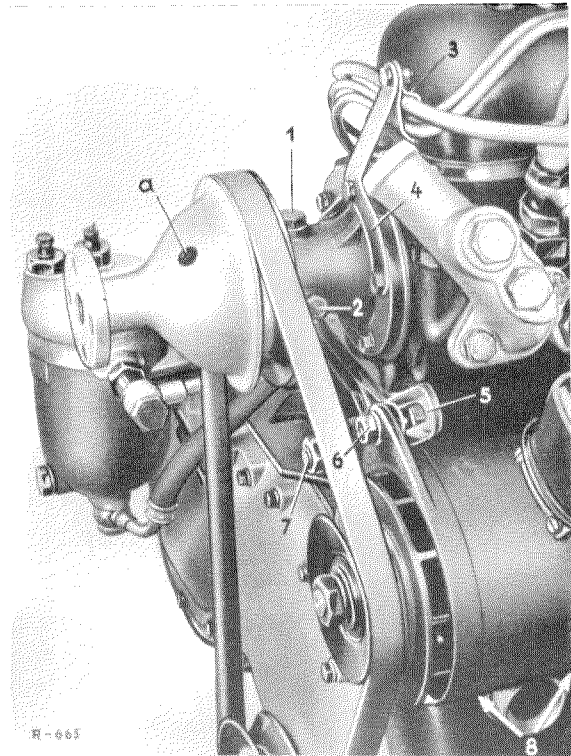

Figure 20-5/1
5. Loosen the two fixing screws (8) at the generator support, the fixing nut (7) and the fixing screw (6) at the generator holder (5). Press the generator towards the engine and remove the V-belt (see Figure 20-5/1).
6. Loosen the hexagon screw fixing the pipe clip (3) for the injection and vacuum line to the holder (4) (see Figure 20-5/1).
7. Unscrew the 5 fixing screws of the water pump housing, press the holder (4) side-wards and remove the water pump from the cylinder head.
Now insert the water pump in the cylinder head, so that the filler cap (1) with the vent hole is exactly on top. Screw in the fixing screws of the water pump. Fix the pipe clip holder (4) to the water pump with the two longer screws M 6 x 18. Tighten all screws evenly (see Figure 20-5/1).
10. Tighten the hexagon screw fixing the pipe clip (3) to the holder (4). The pipe clip must properly clamp the lines to prevent vibrating of the lines.
**Note:** On the vehicle engine for the 180 D, type 636.930, do not fail to keep to the distances  $a = 20$  mm,  $b = 14$  mm (see Figure 20-5/2). If necessary, correct by dislocating the radiator.
14. Fill the water pump housing with Hypoid oil SAE 90. To do this, unscrew the filler plug (1) and also the oil level check screw (2) located at the side of the housing. Fill in until the oil flows out of the level check hole. Reinstall the two plugs (see Figure 20-5/1).